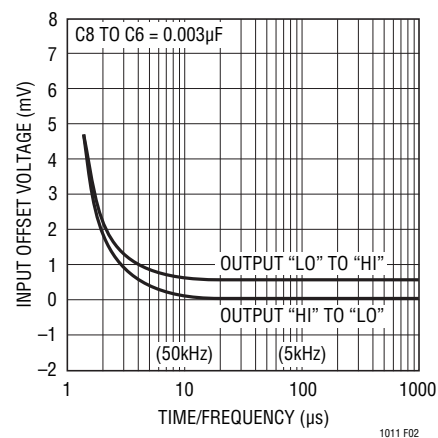

Figure 2. Input Offset Voltage vs Time to Last Transition
This circuit is especially useful for general purpose comparator applications because it does not force any signals directly back onto the input signal source. Instead, it takes advantage of the unique properties of the BALANCE pins to provide extremely fast, clean output switching even with low frequency input signals in the millivolt range. The 0.003 μ F capacitor from Pin 6 to Pin 8 generates AC hysteresis because the voltage on the BALANCE pins shifts slightly, depending on the state of the output. Both pins move about 4mV. If one pin (6) is bypassed, AC hysteresis is created. It is only a few millivolts referred to the inputs, but is sufficient to switch the output at nearly the maximum speed of which the comparator is capable. To prevent problems from low values of input slew rate, a slight amount of DC hysteresis is also used. The sensitivity of the BALANCE pins to current is about 0.5mV input referred offset for each microampere of BALANCE pin current. The 15M resistor tied from OUTPUT to Pin 5 generates 0.5mV DC hysteresis. The combination of AC and DC hysteresis creates clean oscillation-free switching with very small input errors. Figure 2 plots input referred error versus switching frequency for the circuit as shown.